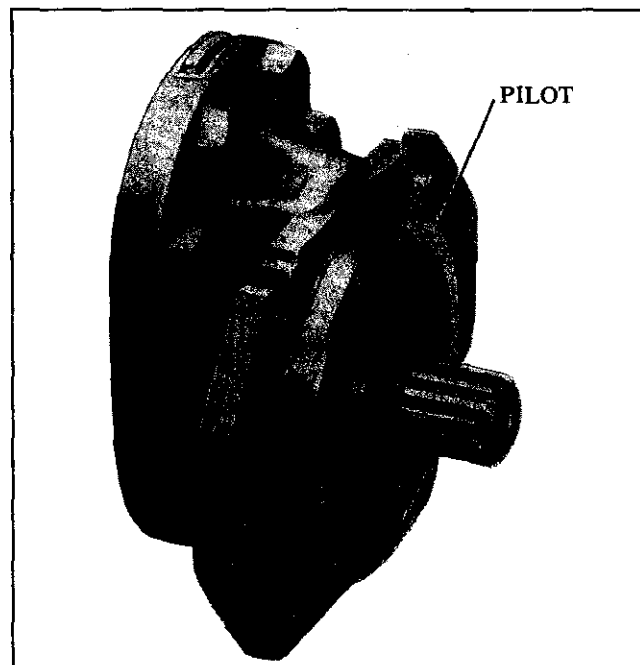

Figure 4. Front Cover Mounting Pilot
1. Direct Drive – A pilot on the mounting flange (Figure 4) assures correct mounting and shaft alignment, provided the pilot is firmly seated in the accessory pad of the power source. Care should be exercised in tightening all flange mounting screws to prevent misalignment. Shaft keys and couplings must be properly seated to avoid slipping and possible shearing. Proper coupling alignment is essential to prolong pump life.